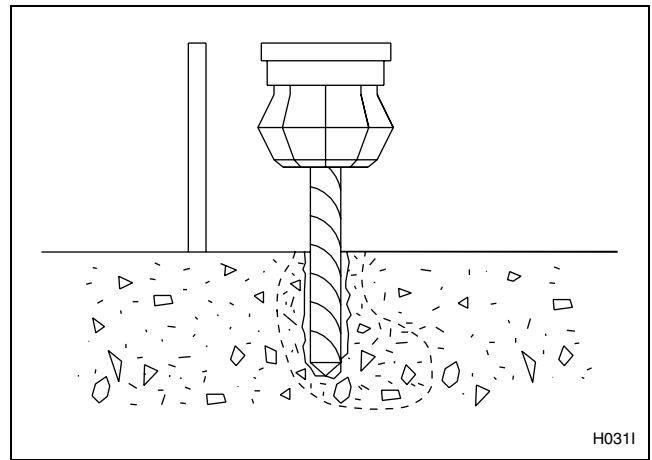

Figure 12
4. Drill and chisel out a conical hole large enough to accept the J-bolt. Refer to *Figure 12*.